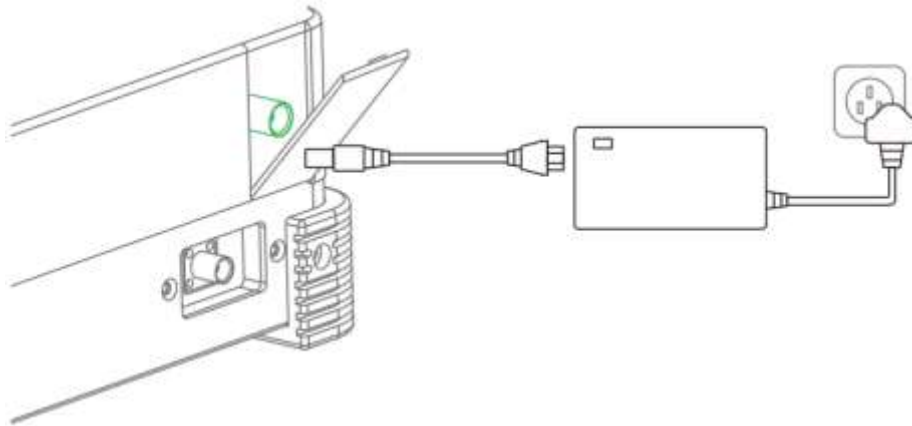

Figure 3-11
Step 1 Connect the ground station to power adapter with a charging cable, as shown in Figure 3-11.